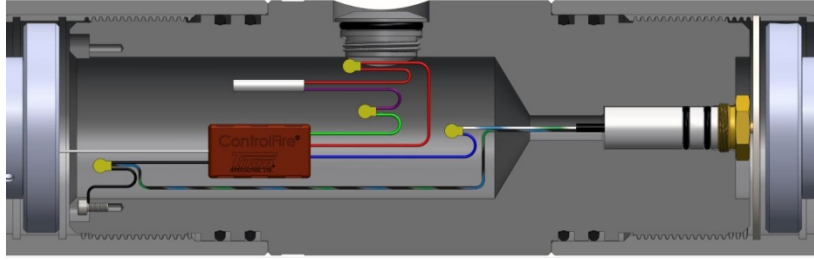

Figure 58
- **Arming Gun Through Tandem Sub:** Secure detonator body into an approved explosives safety tube. It is recommended to always check the detonator resistance using an approved explosives safety multimeter when applicable. Connect the appropriate detonator wire to the red wire of the ControlFire® switch body. Note that the red wire of the ControlFire® switch is ground. Connect appropriate wire of the detonator to the green wire of the ControlFire® switch body. Note that the green wire of the ControlFire® switch is negative voltage input (live wire). Remove detonator body from the explosives safety tube. Attach detonator to detonating cord coming from the above gun. Be careful not to pinch wires when securing arming ports. Figure 58 shows proper tandem sub wiring after arming.